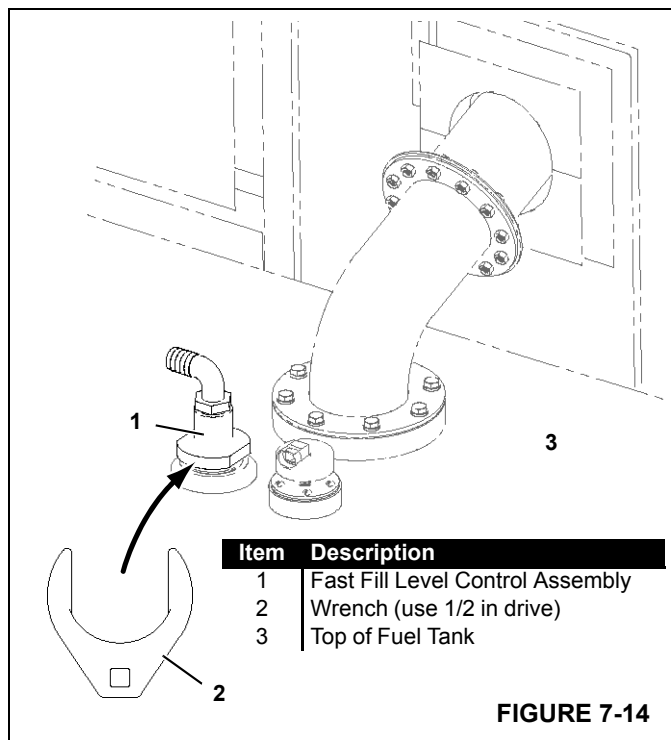

FIGURE 7-14
To remove fast fill level control assembly (1, Figure 7-14), Manitowoc provides wrench (2). The wrench is stored in The Portable Power Unit's tool box.